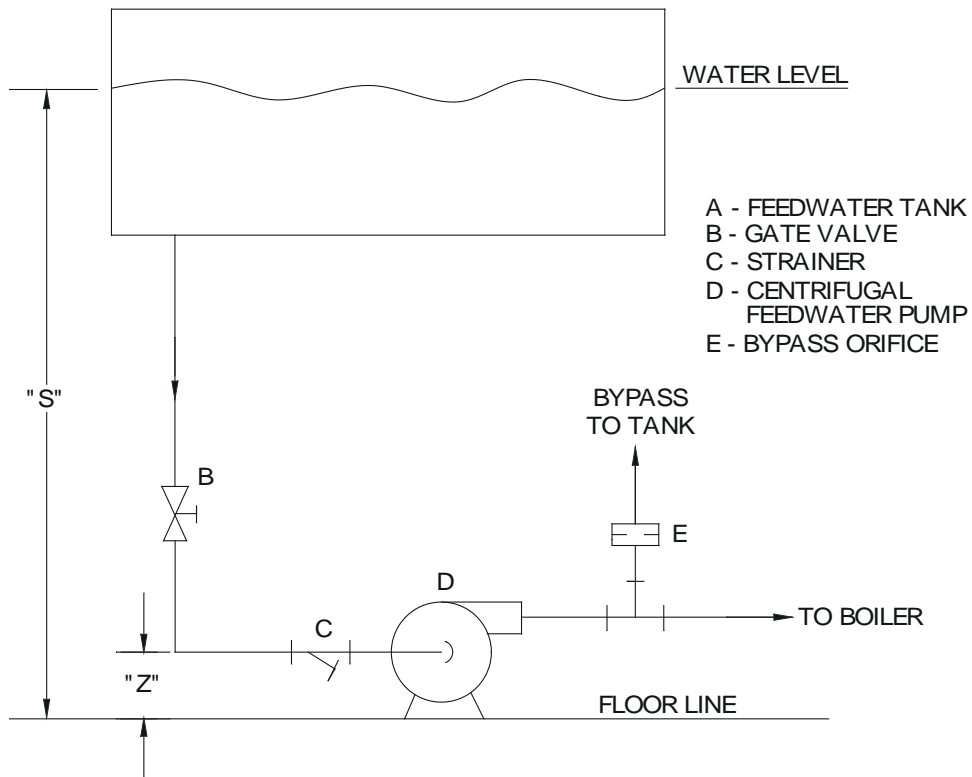
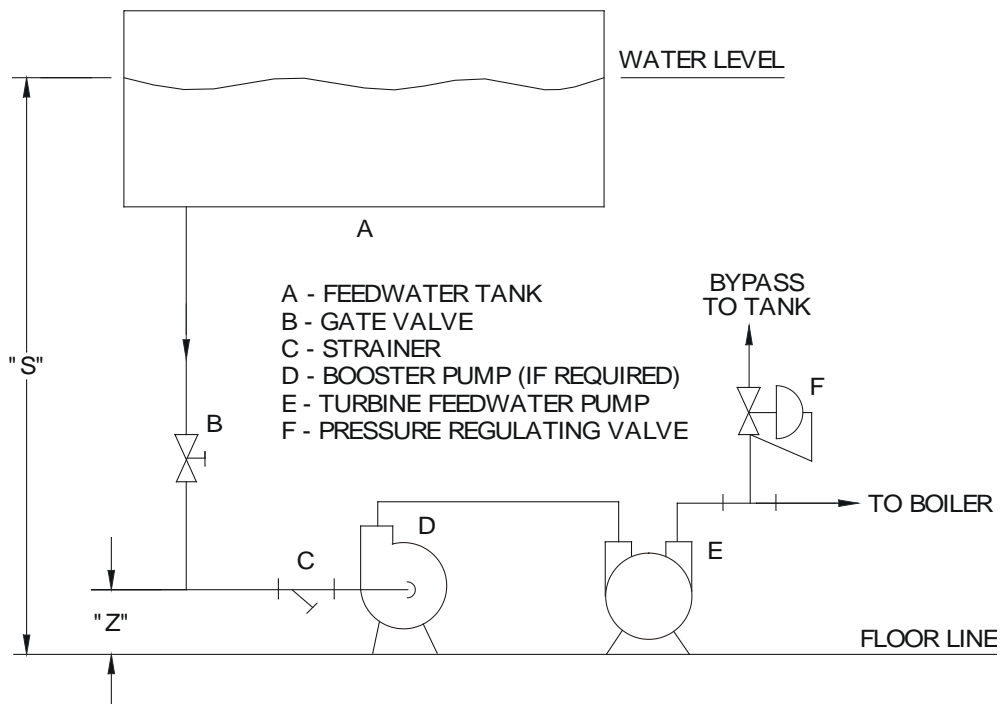

Figure 11. Centrifugal Pump Installation
Figure 12. Turbine Pump Installation
- 9.1.3** A feedwater pump is necessary to make up the water in the Circulatic boiler drum/separator that has been evaporated. A multi-staged centrifugal pump is the usual preferred choice for this application although a regenerative turbine pump is often used. With proper sizing, piping, and valving a single pump may supply more than one boiler at one time. The pump should be installed as close as possible to the deaerator or makeup tank where piping losses least affect the NPSHA (Net Positive Suction Head Available) to the pump. The suction piping should be at least as large as the pump inlet with one isolation gate valve and as few fittings as possible. Figure 11 and Figure 12 illustrate feedwater pump arrangements schematically.
Piping Losses: As indicated in Figure 11 and Figure 12, the feedwater pump is located near the feedwater reservoir in order to keep the pump suction line as short as possible. Piping from the pump to the boiler may then be long with many fittings. The resulting piping losses must be added to the pressure requirements of Table 7. We will assume a pressure drop of approximately 10 PSI (24 ft of water) between the pump and boiler at 20 GPM and 38 feet of water at 25 GPM. These values are added to Point “B” and Point “C” respectively.